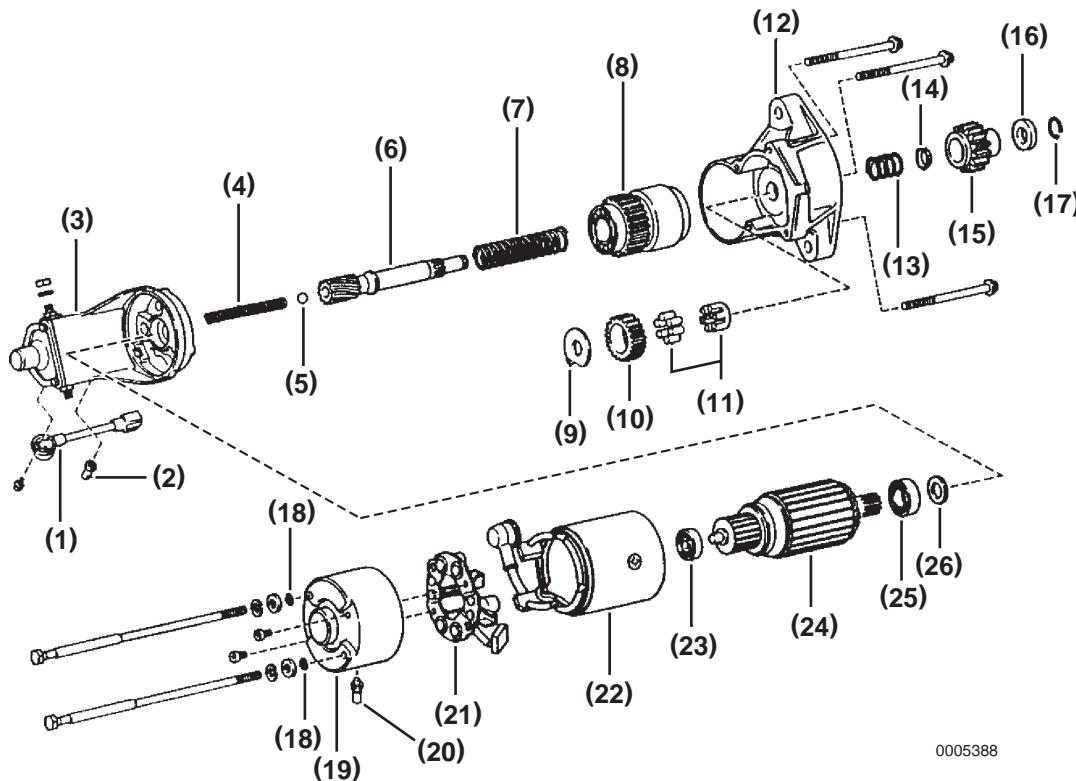

Figure 10-1
8. Remove the armature (Figure 10-1, (24)) from the field coil frame (Figure 10-1, (22)).